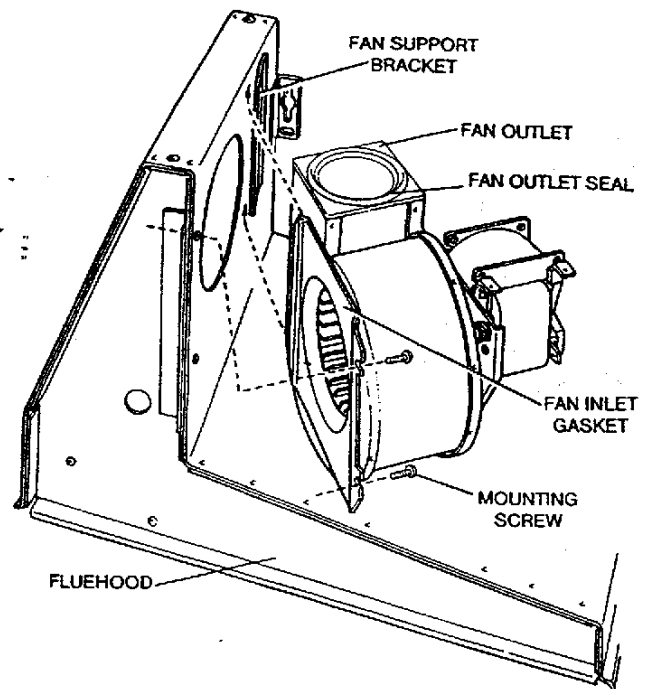

Fig. 29 FAN ASSEMBLY
- Fit new fan into position ensure the fan is located correctly (see Fig. 29) and that a good seal is made between the fan outlet and the top of the inner case.